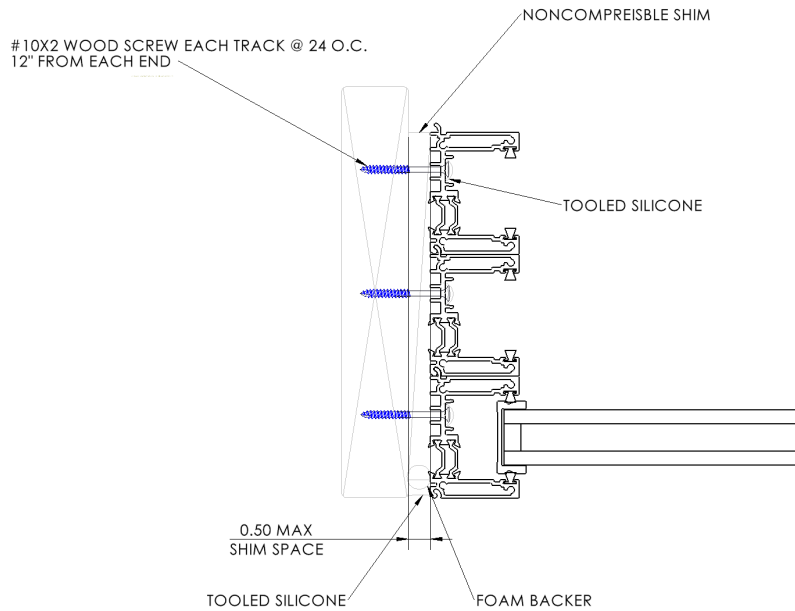

Figure 3
- Jamb: Holes should be drilled 12" from each end and every 24" on center per track. (See Figure 3).